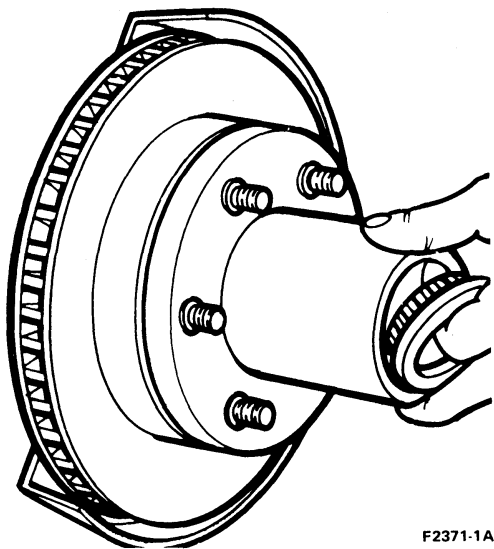

FIG. 4 Hub, Disc, and Outer Bearing Removal
6. Remove the hub and disc assembly. The outer wheel bearing and spring retainer will slide out as the hub is removed (Fig. 4).